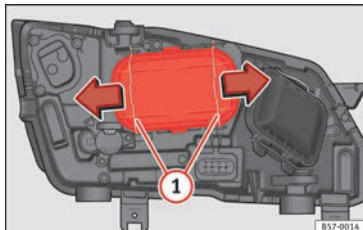

Fig. 105 In the engine compartment: remove the lid.
2. Move the loops » **Fig. 105** ① in the direction of the arrow and remove the cover.